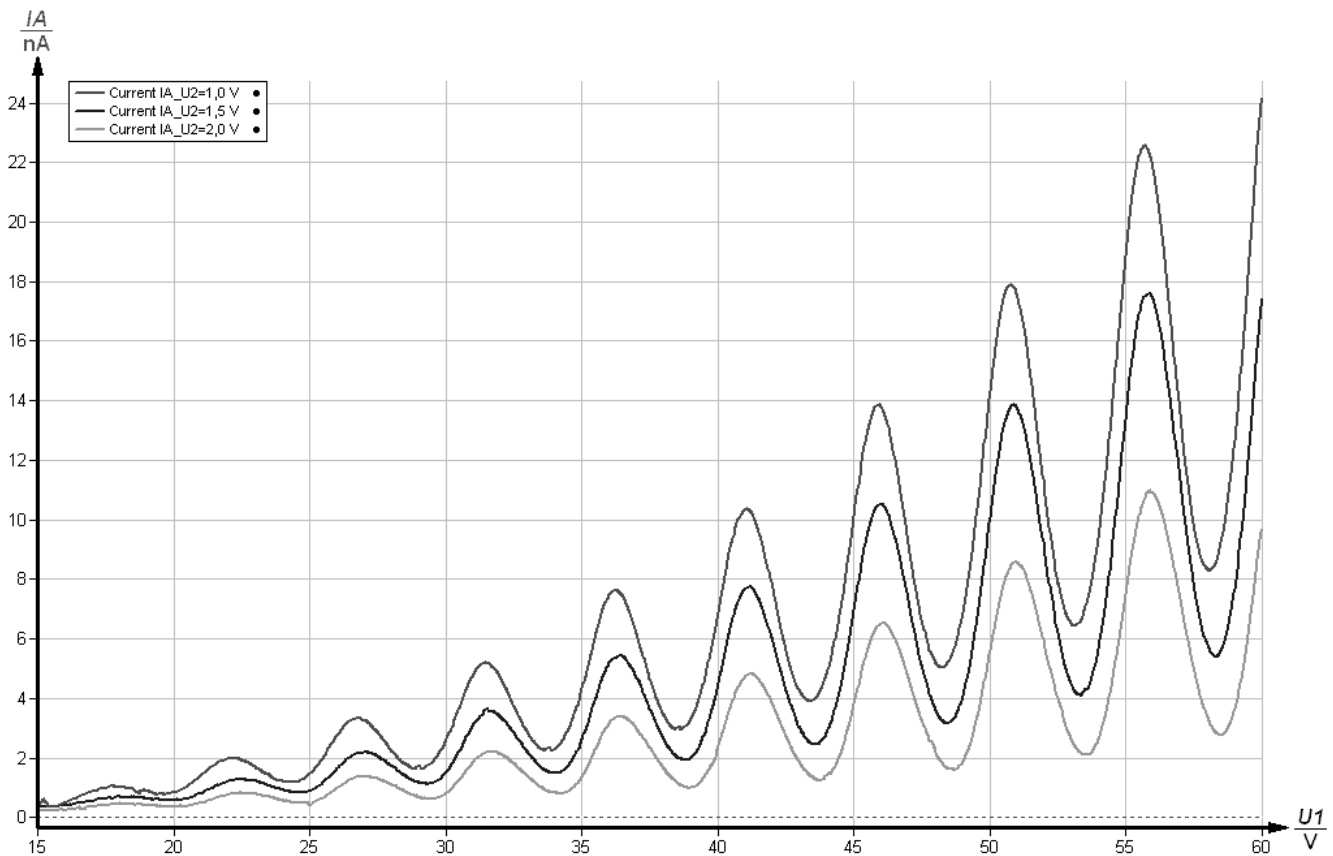

Fig. 9: Franck-Hertz-curve for Hg-tube and different counter voltages U_2 .
C) The programme allows manual or automatic increase of the accelerating voltage. Fig. 9 shows three curves that were plotted at different counter voltages U_2 (= 1 V; 1.5 V; 2 V).